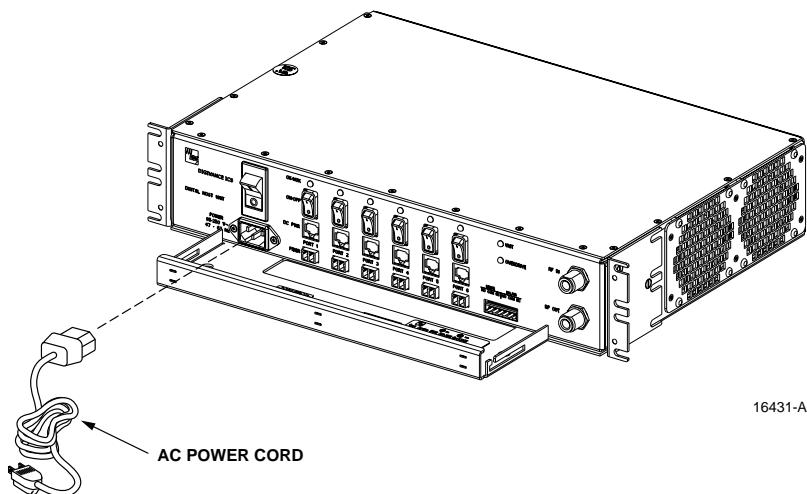

Figure 23. AC Power Connection
2. Place the DHU AC power ON/OFF switch, shown in Figure 23, in the **OFF** position (press **0**).